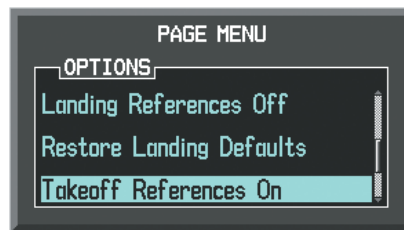

Figure 2-5 Timer/References Window Menu
- 3) Turn the **FMS** Knob to highlight the desired selection (Figure 2-5).